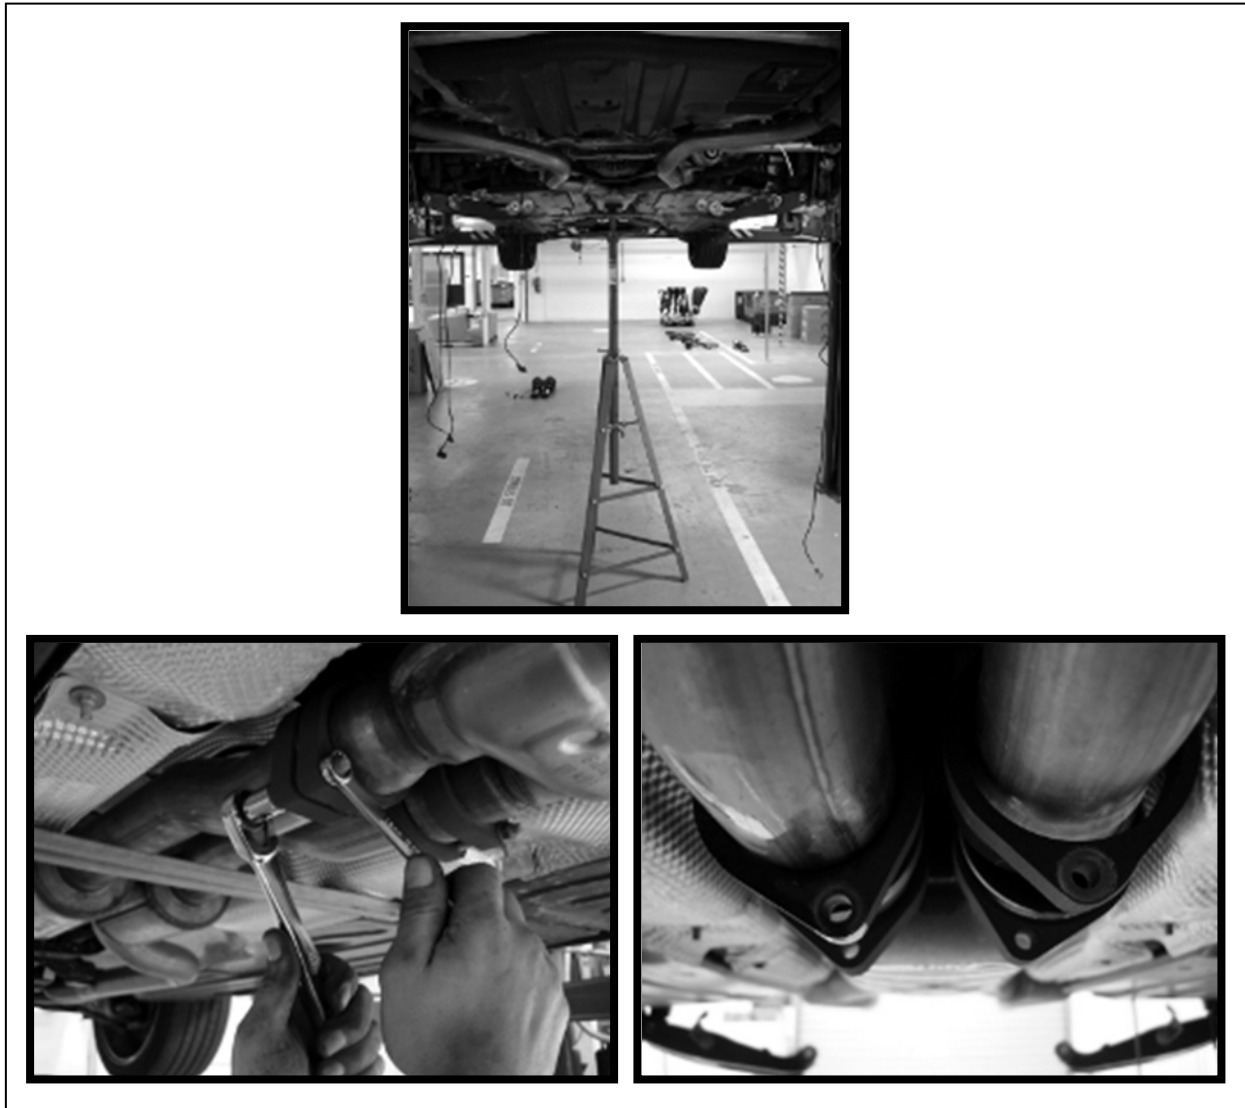

FIGURE 10-10
13.0 SUPPORT EXHAUST, AND LOOSEN AND REMOVE EXHAUST FLANGE BOLTS. (FIGURE 10-10)